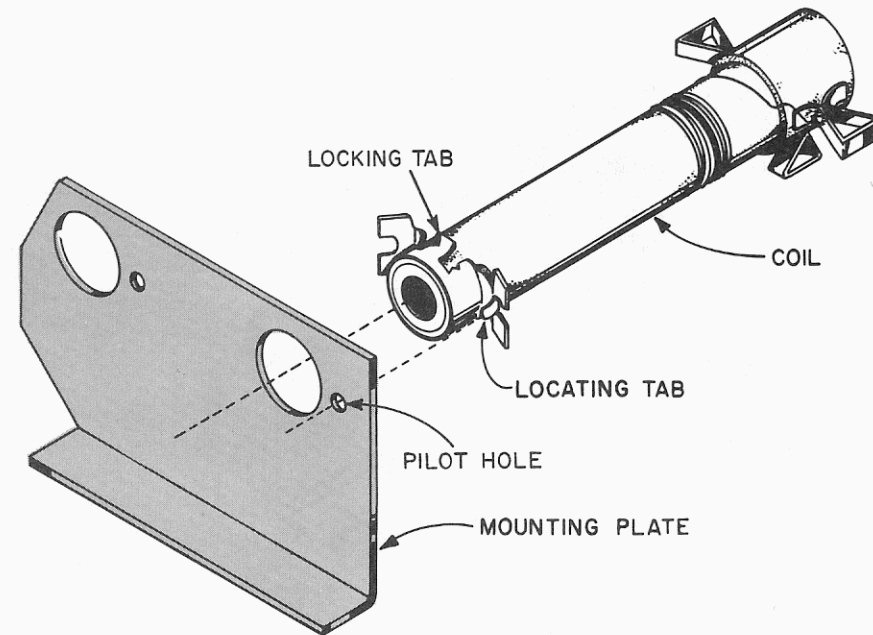

FIGURE 24
- Coil L-6 (blue dot). Mount L-6 to the front mounting plate, See Figure 24. Make sure both locking tabs hold the coil to the mounting plate and the locating tab is in the pilot hole.